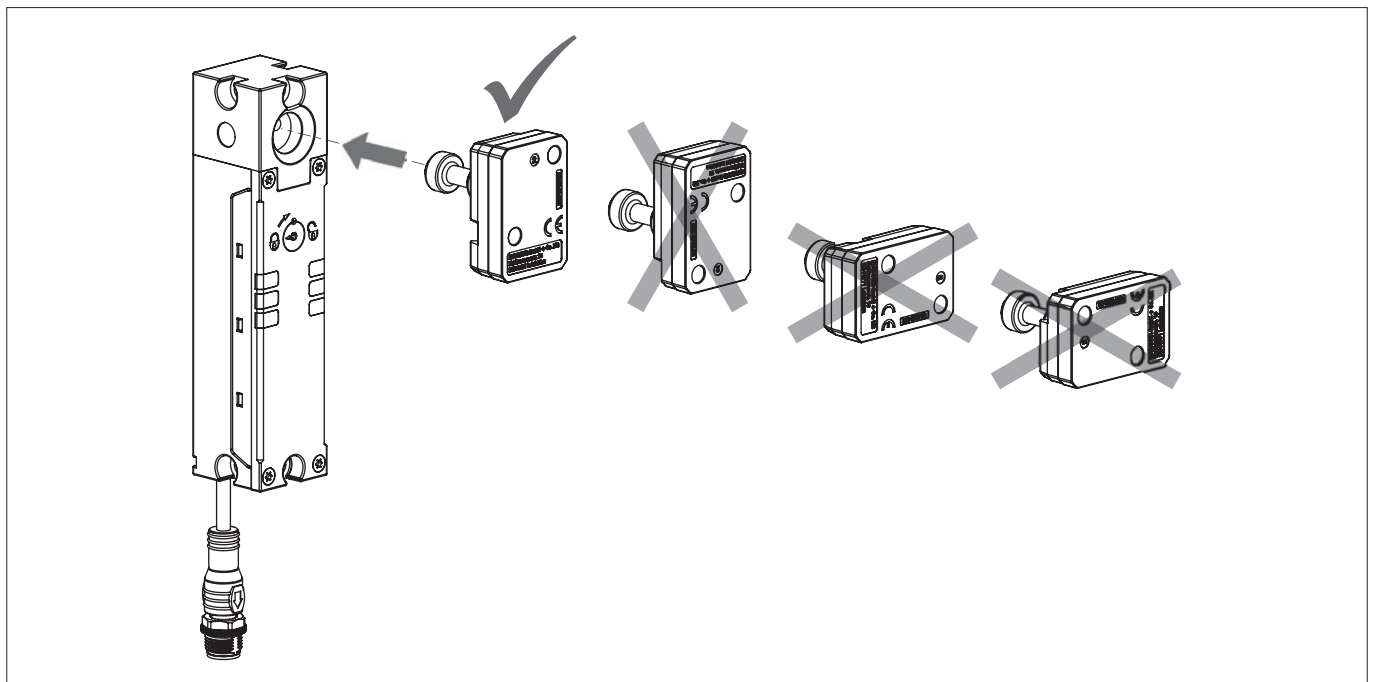

Fig. 2: Actuator alignment
- Actuator and safety switch must be mounted such that the actuator is perpendicularly and completely inserted into the switch when the guard is closed (see Fig. 2). The guard locking function is not ensured if mounting is incorrect.